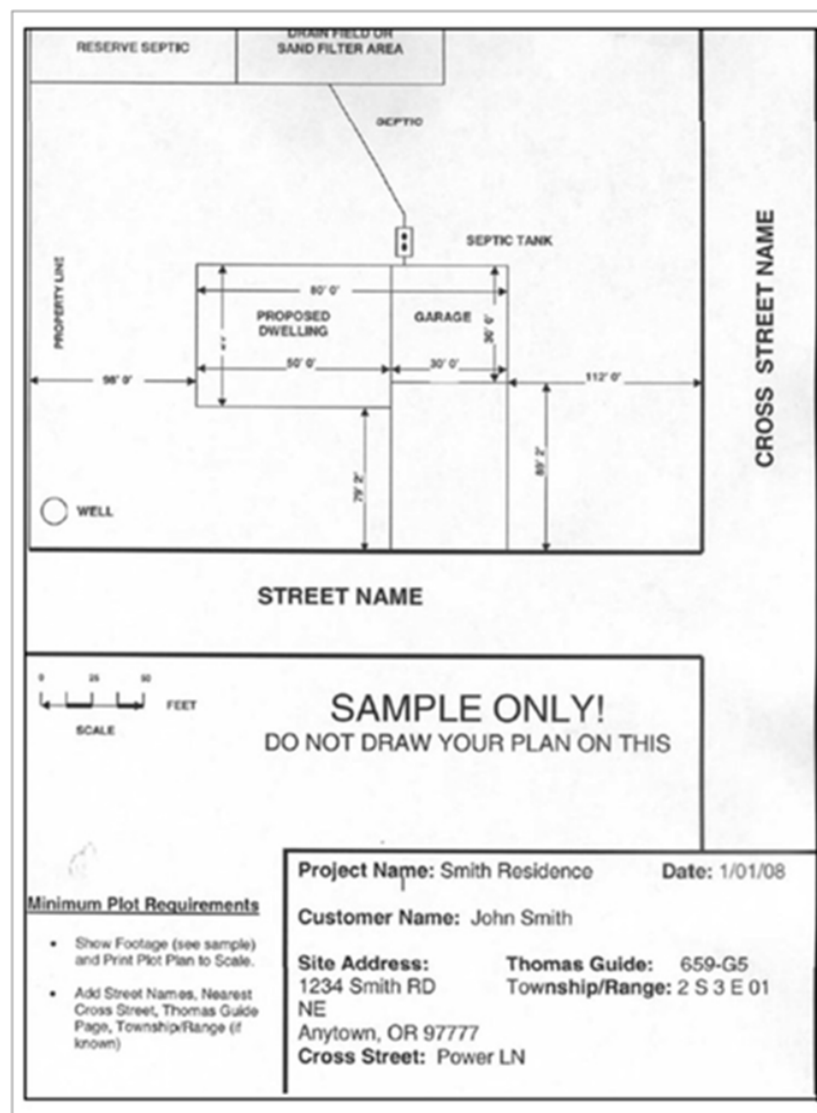

Figure 129. Example Plot/Site Plan
3. Provide a hard copy of the scaled plot or site plan that was submitted for the building permit. New connected load data that is not accompanied by a site plan may delay initiation of service. Figure 129 shows an example plot/site plan.